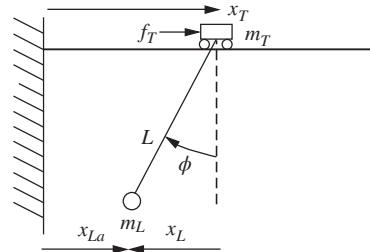

FIGURE P2.3616
59. Figure P2.36 shows a crane hoisting a load. Although the actual system's model is highly nonlinear, if the rope is considered to be stiff with a fixed length  $L$ , the system can be modeled using the following equations: